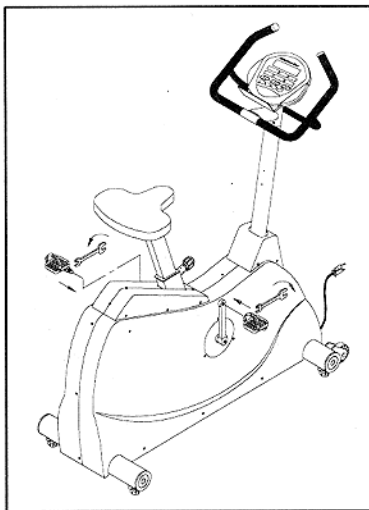

Fig.5
7. Attach the foot pedals to the crank arms of the bike. Be careful to install the pedals on the correct crank arms. Use an open-ended wrench to tighten the pedals securely (see Fig 5)